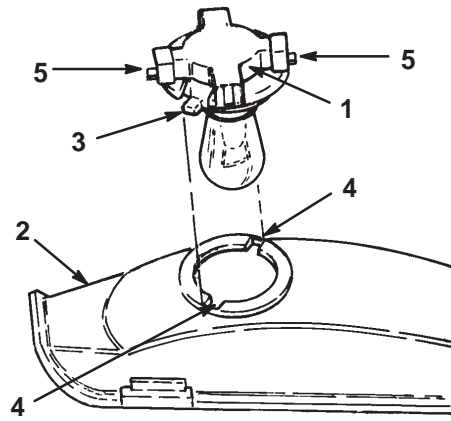

Figure 32
3. Rotate the bulb holder 1/4 turn counterclockwise and remove it from the reflector (Fig. 32).
2. The bulb holder has two tabs (Fig. 32). Align the tabs with the slots in the reflector, insert the bulb holder into the reflector, and rotate it 1/4 turn clockwise until it stops.